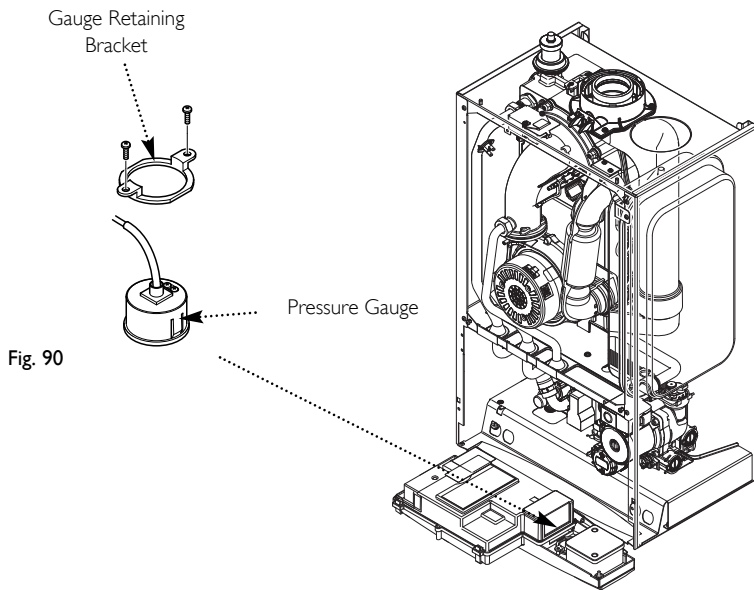

Fig. 90
14.15 Pressure Gauge (Figs. 90 & 91)